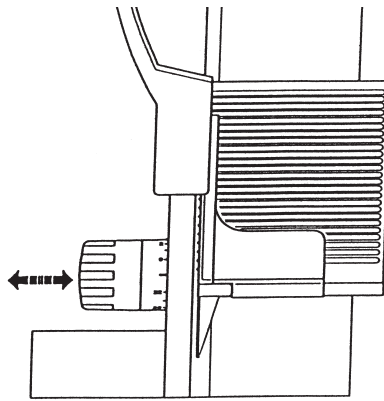
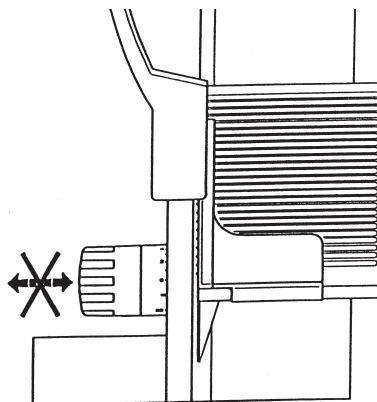

Figure 7
Figure 8
11. For safety, always return Thickness Adjustment Knob to '0' (Figure 8) after use to shield sharp edge of blade.
8. To facilitate cleaning, the Thickness Adjustment Knob can be turned past '0' as shown in Figure 7 to allow Supporting Plate to slide back – only use this feature with blade removed. After cleaning and before reassembling, push Supporting Plate forward and reset Thickness Adjustment Knob to '0' (Figure 8).